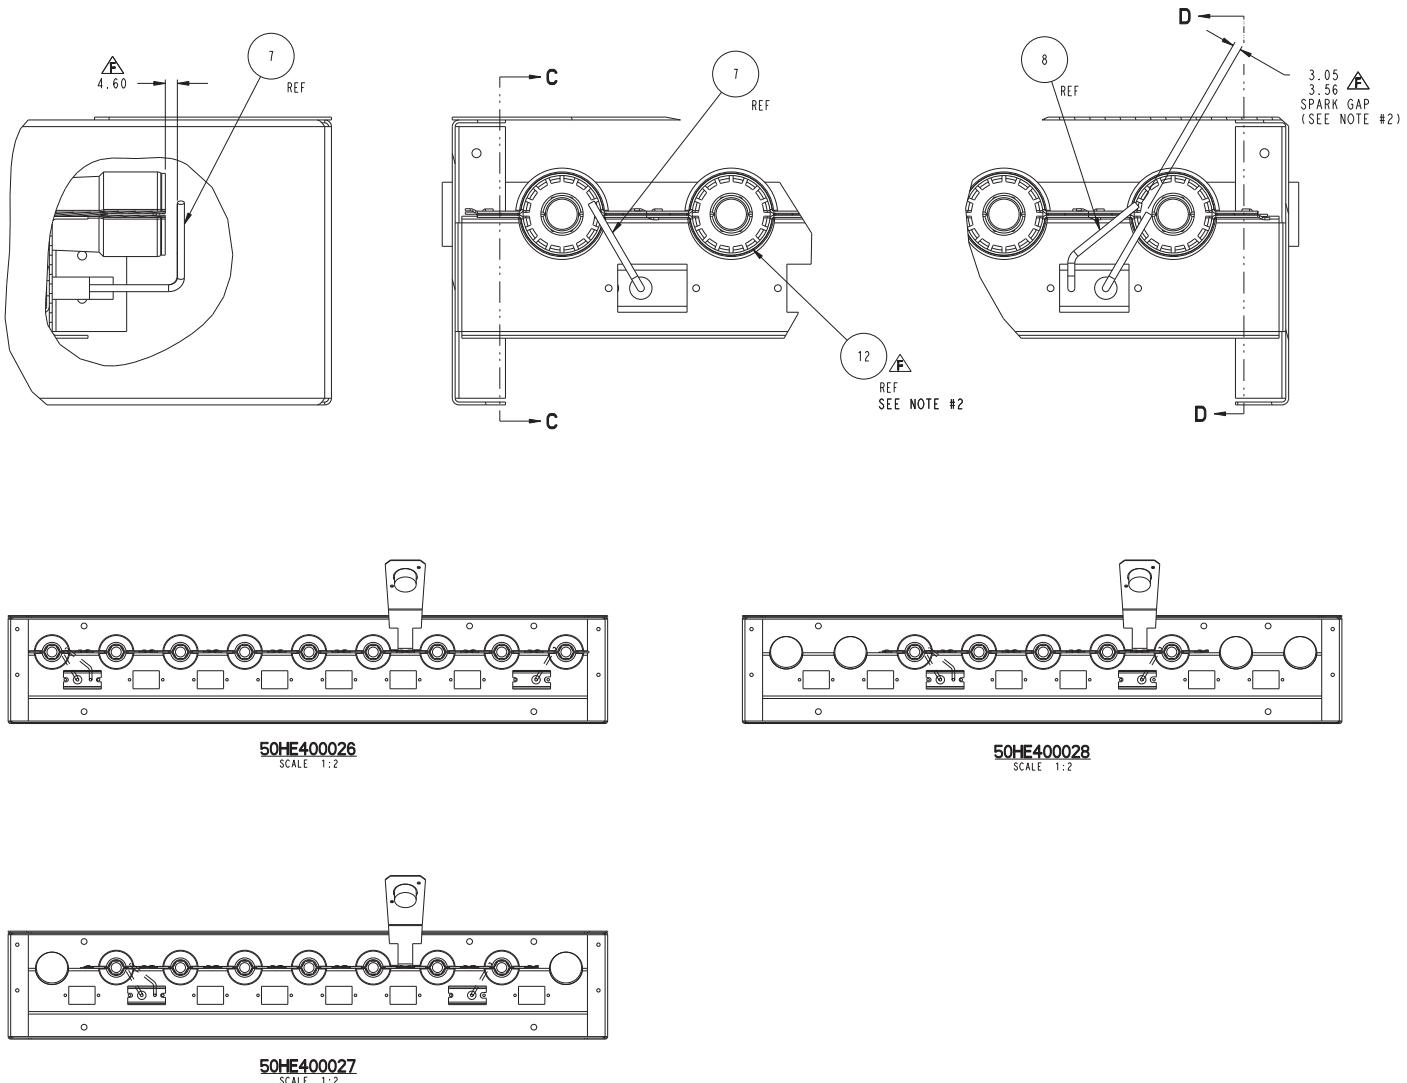

Fig. 36 — Spark Adjustment
4. Adjust spark gap. The gap should be 0.12 to 0.14-in. (3.06 to 3.60 mm) and spaced 0.18-in. (4.60 mm) from the end of the burner. (See Fig. 36.)